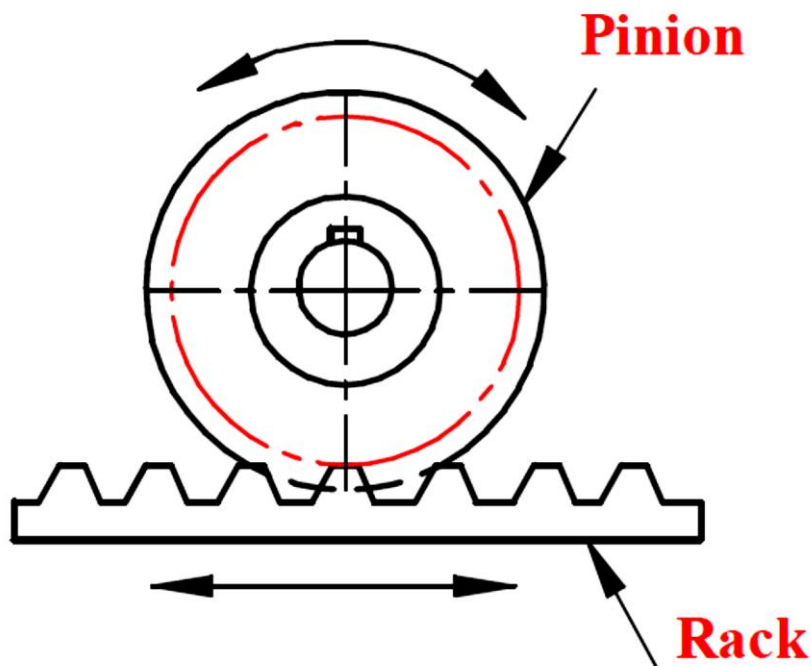

Fig. 4.10 Rack & Pinion
- When a rotary motion is to be converted into a linear motion, rack & pinion arrangement is used. Fig. 4.10 shows the Rack & Pinion.